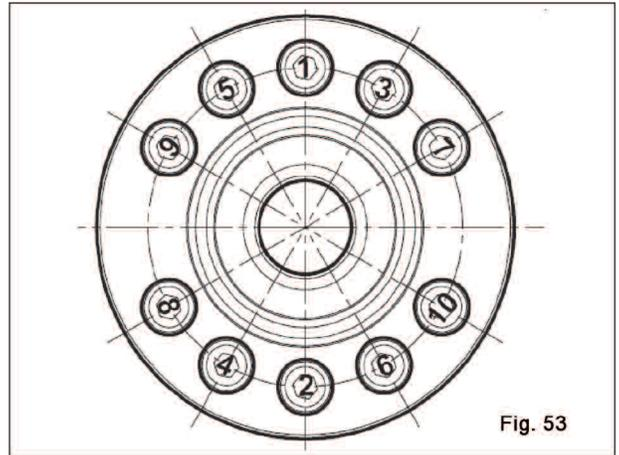

Fig. 53
- ****The support fixing screws must be tightened in two steps, respecting the sequence shown in fig. 53: